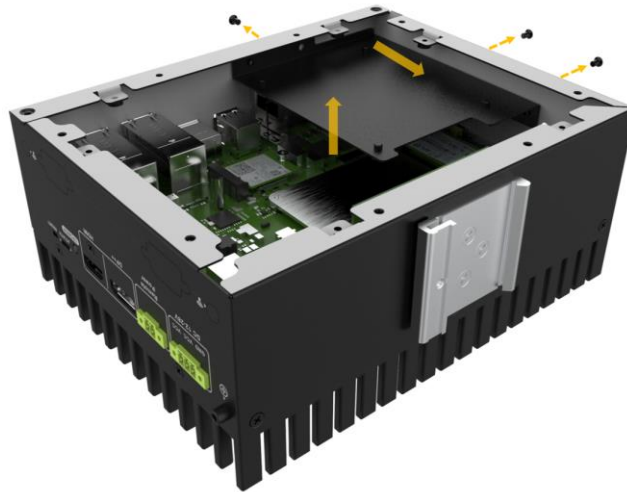

Figure 3-2: Removing the HDD Bracket
**Step 2:** Remove the HDD bracket as indicated by the arrows in Figure 3-2.